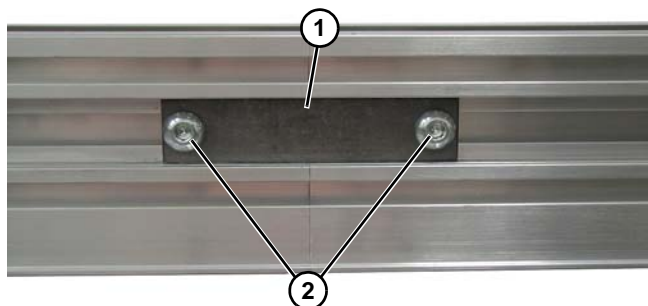

Figure 11
- Join conveyor sections and install connector brackets (**Figure 11, item 1**) and screws (**Figure 11, item 2**) on both sides as indicated. Tighten screws to 60 in-lb (7 Nm).